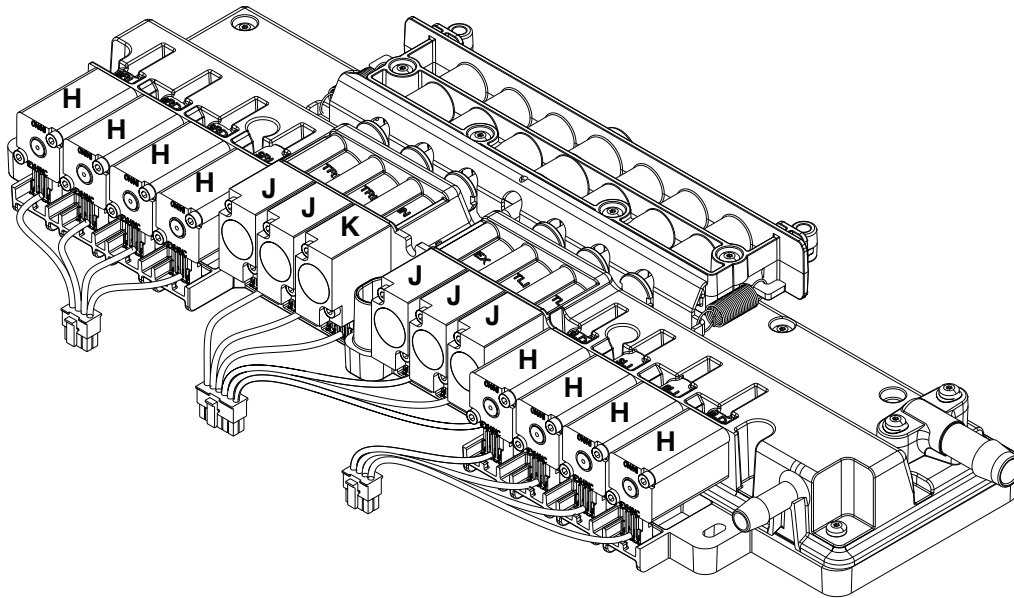

Figure 11 – Solenoid valve
3. Using the supplied torque driver, remove the two screws that secure the solenoid valve (H, J, or K) to the manifold assembly (Figure 11). Save the screws.